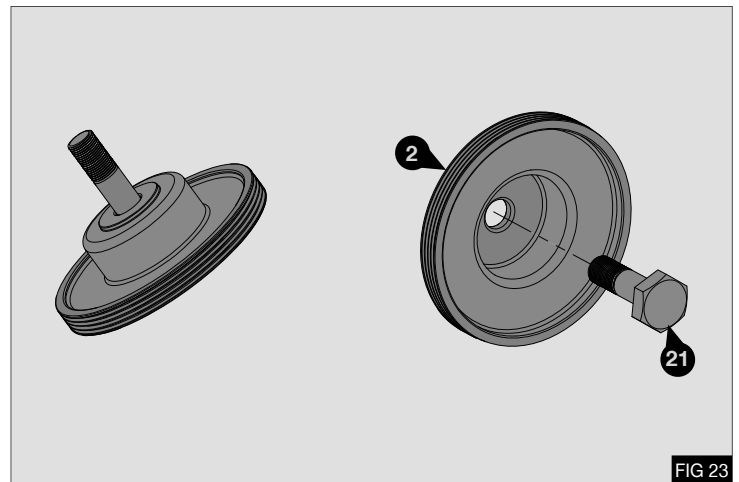

FIG 23
1. Assemble the supplied M20 x 66 bolt (21) into the additional drive pulley (2) - Fig 23